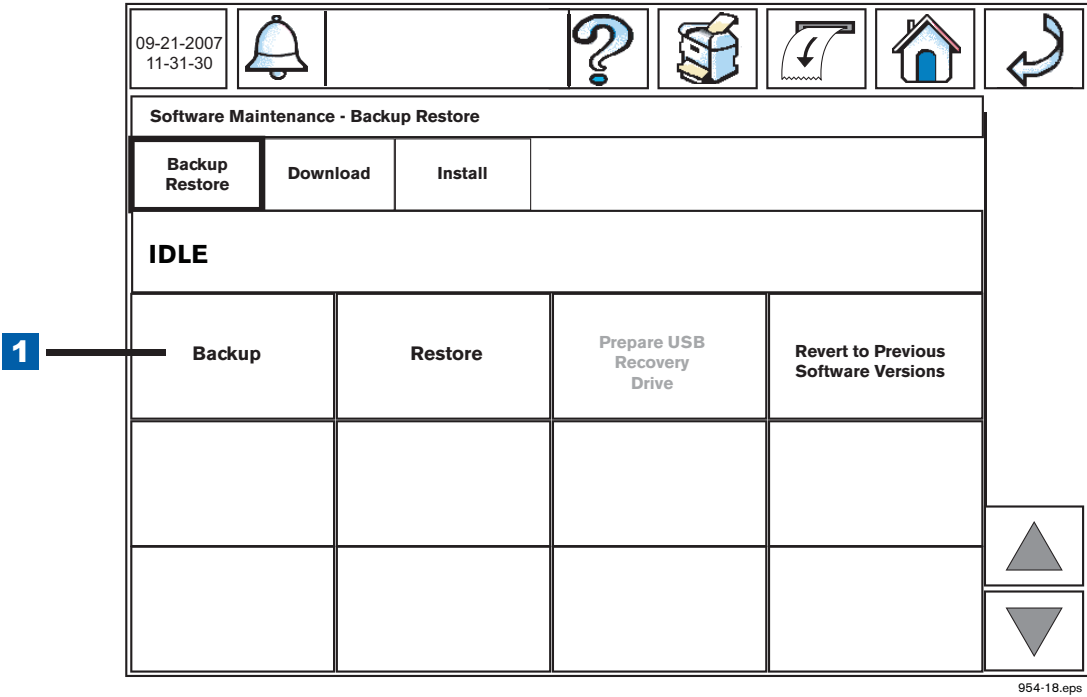

Figure 5. Initiating a System Backup
6. Touch the Software Maintenance button on the Diagnostic Maintenance screen (see Figure 4) to open the Software Maintenance - Backup Restore tab screen (see Figure 5).
- 7. Touch the Backup button (item 1 in Figure 5) to begin the system backup process.
LEGEND FOR NUMBERED BOX IN Figure 5
7. Touch the Software Maintenance button on the Diagnostic maintenance screen (Figure 4) to open the Software Maintenance Backup Restore tab screen (Figure 5).